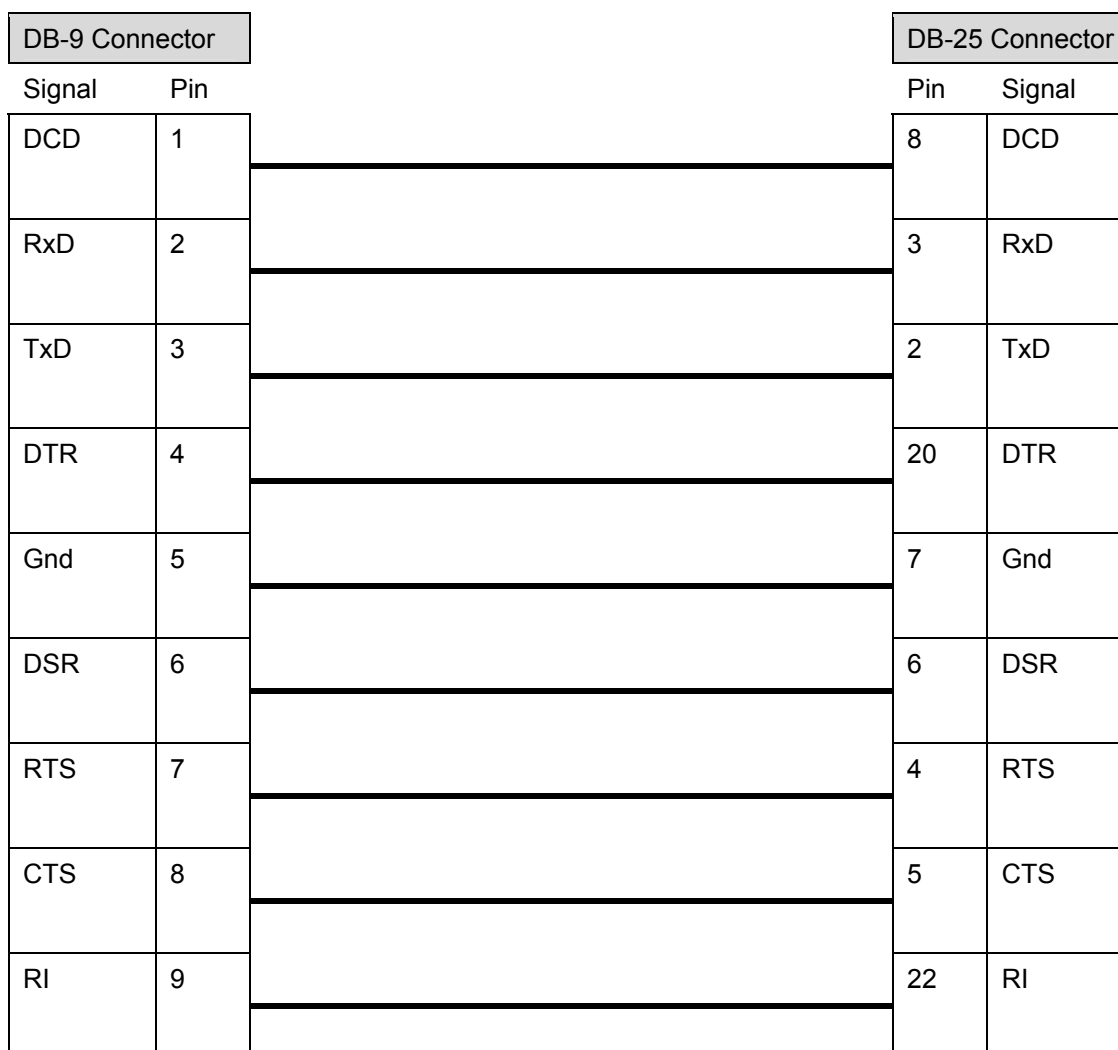

Figure 87: Modem RS-232 Cable Wiring
- Null-modem RS-232 cable (Figure 87).